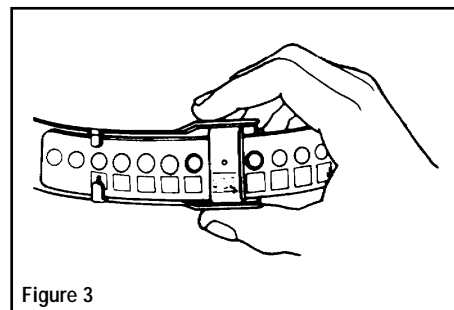

Figure 3
2. Squeeze the buckle to disengage sizing mechanism, and place headband on your head. Continue squeezing buckle while pulling headband down over your head. Headband automatically adjusts to your size and locks when you release your grip (see Figure 3). Headband should feel comfortable and snug.